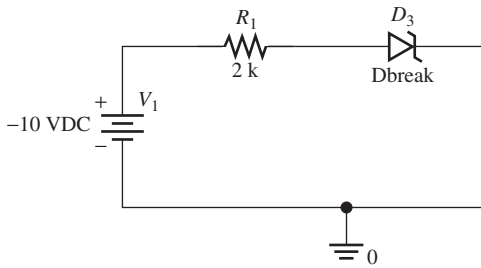

FIGURE 8.88 Place the Zener diode into the PSpice circuit.
- Place the Zener diode as shown in Figure 8.88.